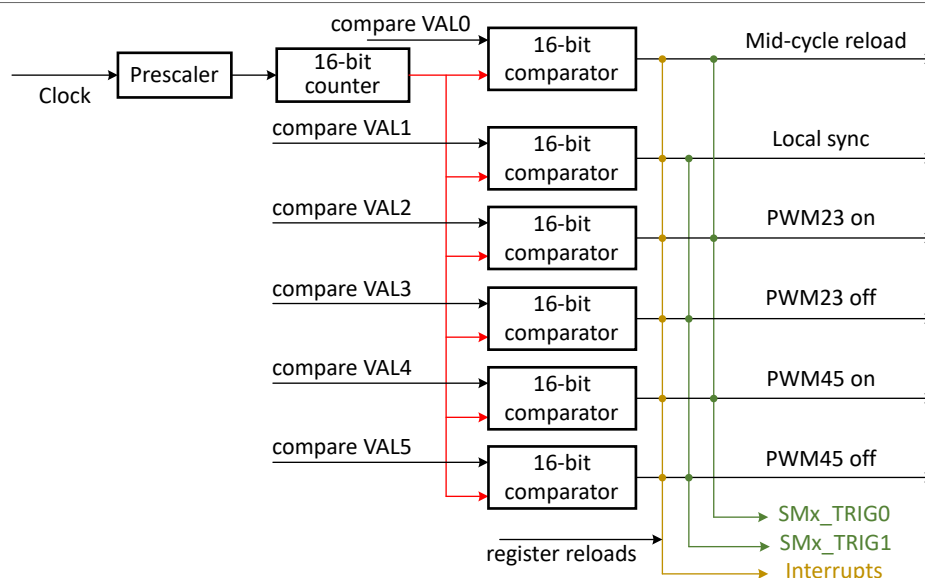

Figure 6. Match event in a submodule
- Trigger output: Each submodule can generate two trigger outputs, as shown in Figure 6: